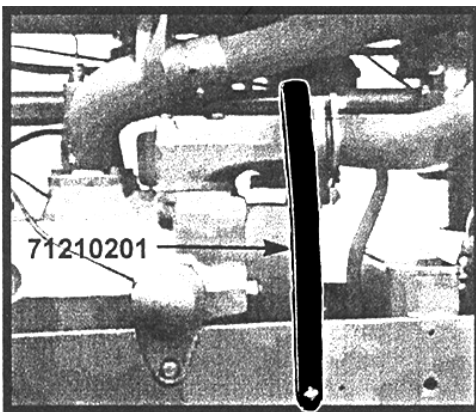

Figure 3
2. Attach # 712210201 Exhaust Guard to right side of tractor over exhaust system so Motor Cover does not contact exhaust. See Figure 3